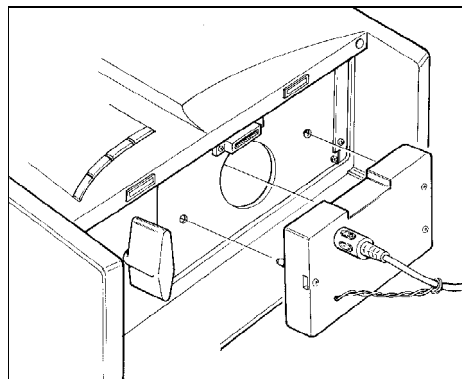

Figure 5-30. Attaching the photosensor
2. Attach the photosensor (Figure 5-30) to the ProPalette unit.
1. Remove the alignment CCD camera from the ProPalette unit and install the photosensor (Figure 5-30 on page 132).